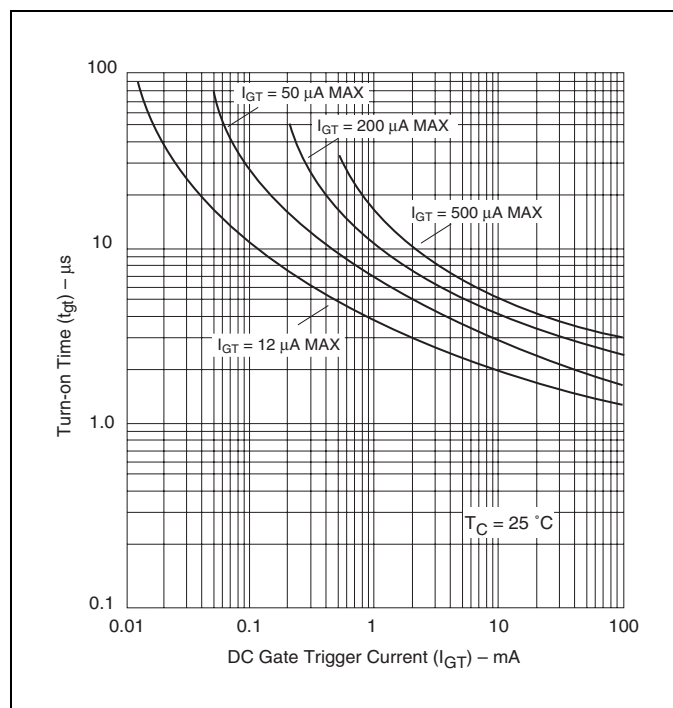
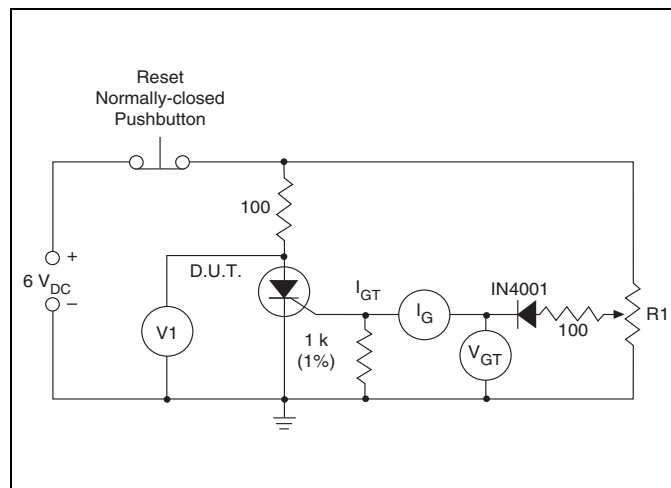

Figure E5.15 Typical Turn-on Time versus Gate Trigger Current
Figure E5.19 Simple Test Circuit for Gate Trigger Voltage and Current Measurement
- (8) See Figure E5.15 for t_{gt} versus I_{GT}.
- (9) Test conditions as follows:
- (10) Test condition is maximum rated RMS current except TO-92 devices are 1.2 A_{PK}; T106/T107 devices are 4 A_{PK}.
- (11) See package outlines for lead form configurations. When ordering special lead forming, add type number as suffix to part number.
- (12) V_D = 6 V dc, R_L = 100 Ω (See Figure E5.19 for simple test circuit for measuring gate trigger voltage and gate trigger current.)